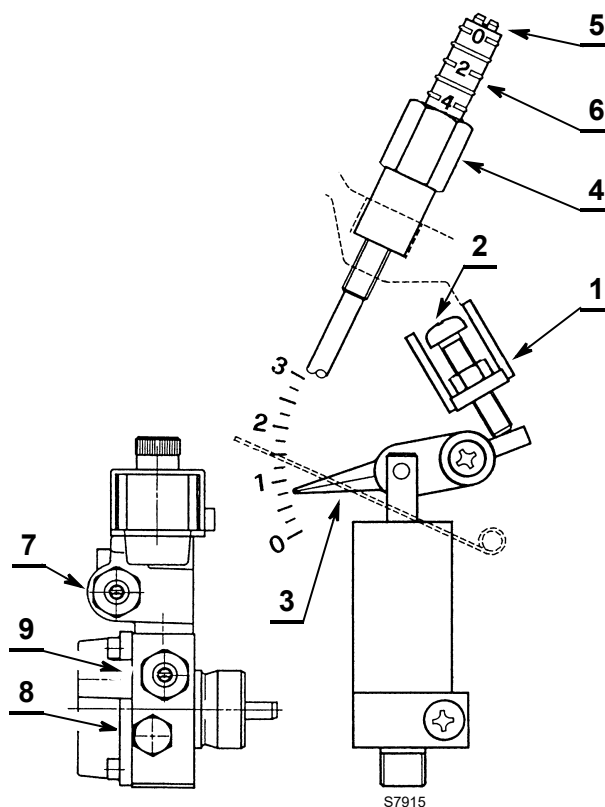

Fig. 13
- Loosen the nut 1)(Fig. 13), turn the screw 2)(Fig. 13), and bring the indicator 3)(Fig. 13) to the required position.
- When the adjustment is completed screw in the nut 1)(Fig. 13).
If necessary, recalibrate the pressure using the screw 7)(Fig. 13). The pressure gauge for checking the pressure should be fitted in the place of the plug 8)(Fig. 13).
- Loosen the nut 4)(Fig. 13), adjust the screw 5)(Fig. 13), and bring the indicator 6)(Fig. 13) to the required position.
- When the adjustment is completed screw in the nut 4)(Fig. 13).
If necessary, recalibrate the pressure using the screw 9)(Fig. 13). The pressure gauge for checking the pressure should be fitted in the place of the plug 8)(Fig. 13).